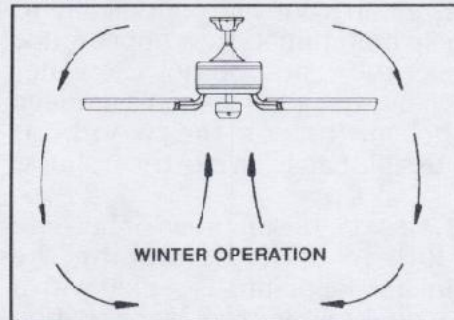

FIG. 20
**Cool weather - (Clockwise)** An upward airflow moves warm air off the ceiling area as shown in Fig. 20. This allows you to set your heating unit on a cooler setting without affecting your comfort.